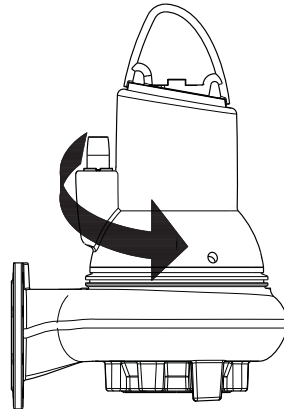

Fig. 15 Jerk direction
2. Start and stop the pump while observing the movement (jerk) of the pump. If connected correctly, the impeller will rotate clockwise, that is the pump will jerk counterclockwise. See fig. 15.